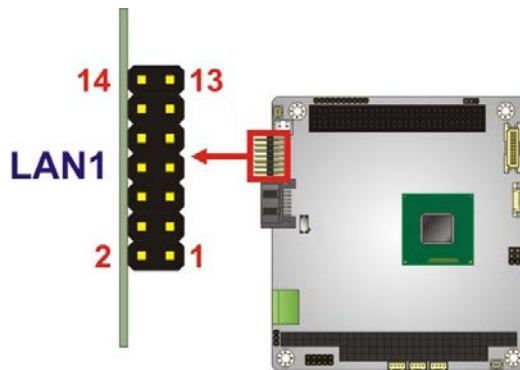

Figure 3-8: LAN Connector Location
- CN Location:** See **Figure 3-8**